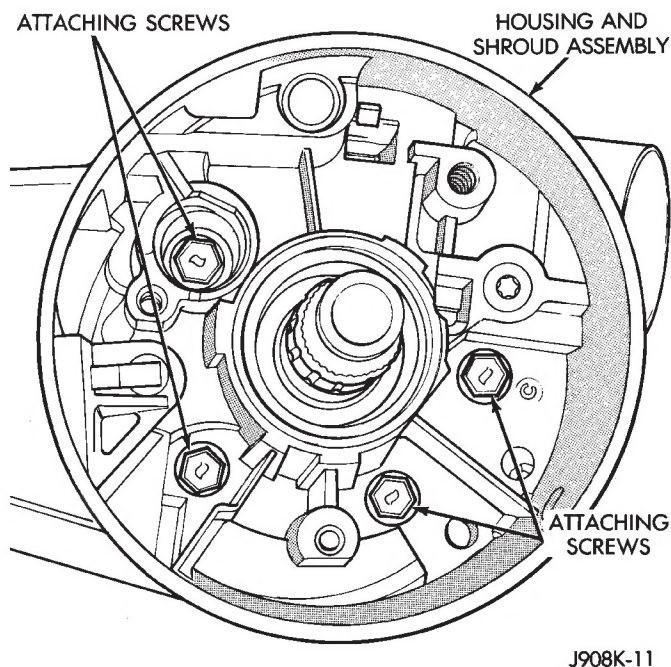

Fig. 26 Steering Column Housing Remove/Install
(32) Remove screws that attach housing and shroud assembly to column jacket and carefully remove housing and shroud assembly (Fig. 26).